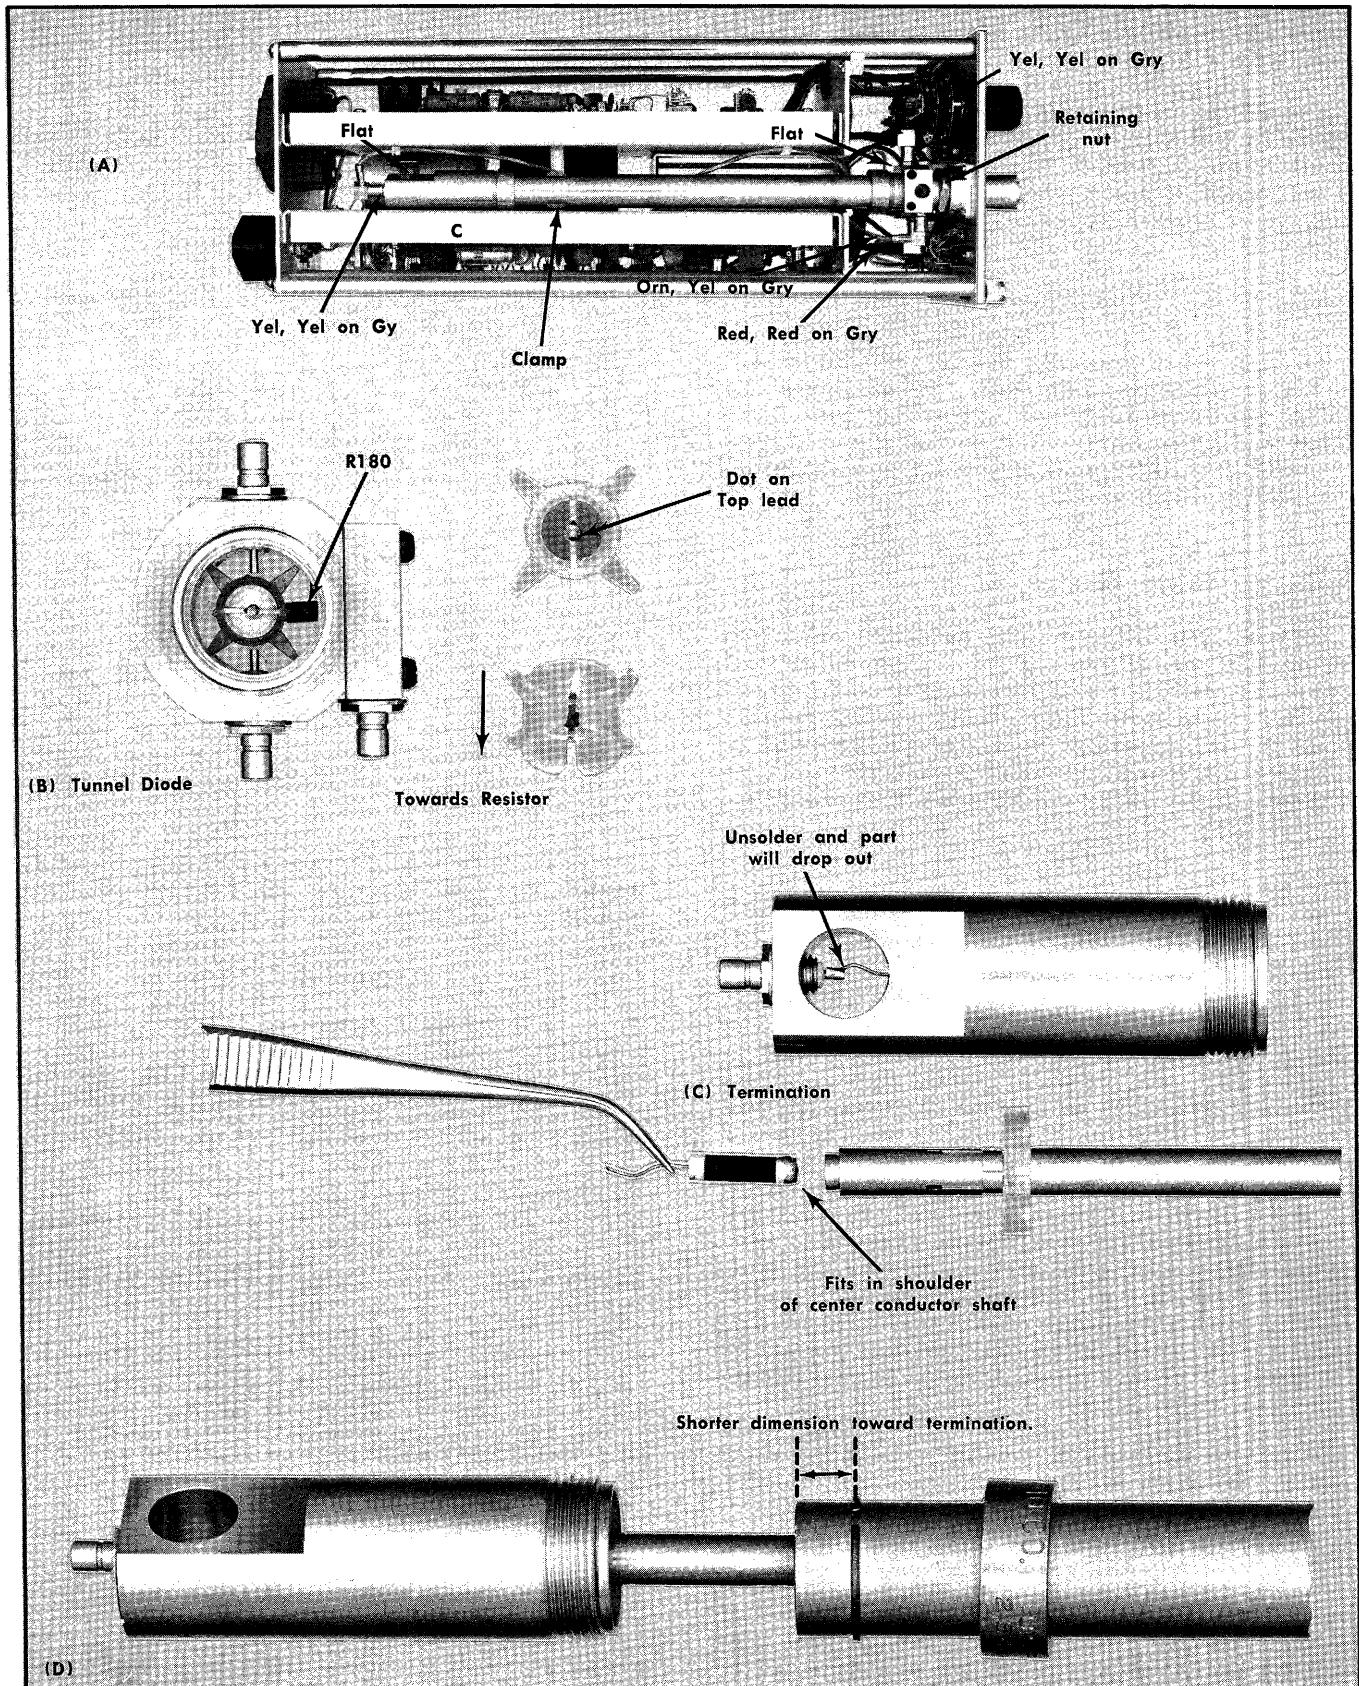

Fig. 4-4. Tunnel Diode Pulser assembly.
**Pulse Assembly Removal.** Disconnect the four connectors, loosen the retaining nut, slide the assembly back to clear the front ring, then release the assembly from the clamp and lift it from the Type 284; see Fig. 4-4.